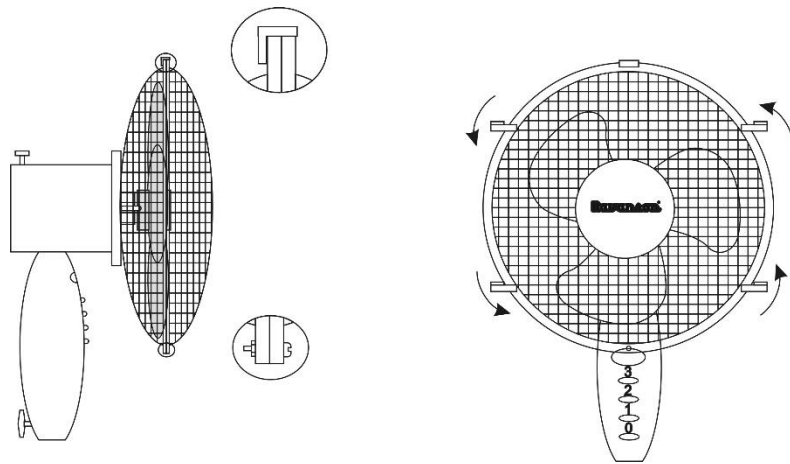

Fig 2
2. Assembly the fan as shown in Figure 2